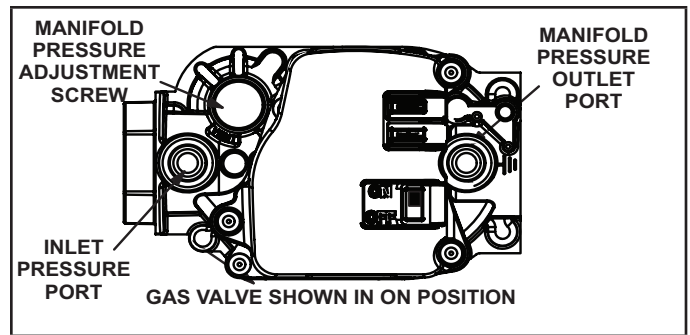
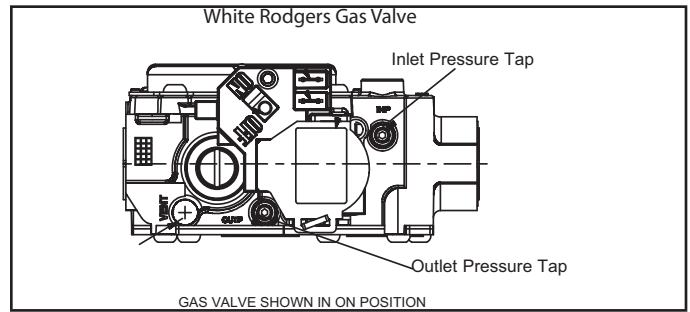

FIGURE 32
FIGURE 33
Gas Valve Operation (FIGURE 32 and FIGURE 33)
- 6 - Move switch on gas valve to **OFF**. Do not force. See FIGURE 32 and FIGURE 33.
8 - Move switch on gas valve to ON. Do not force. See FIGURE 32 and FIGURE 33.